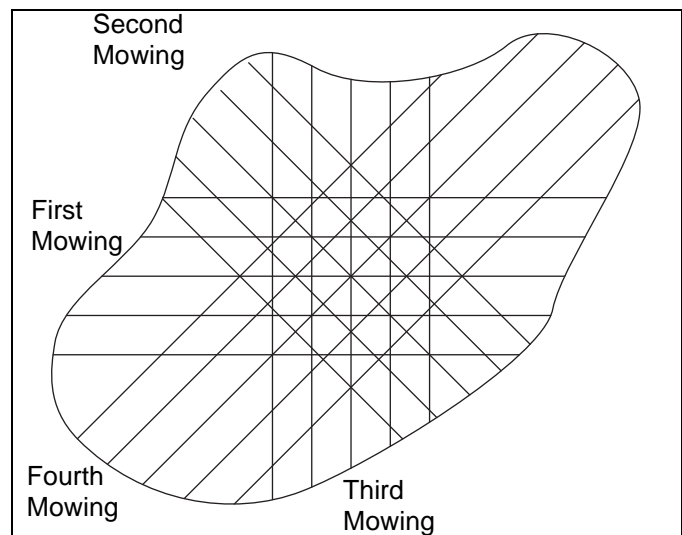

Figure 4D
5. For a more even playing surface and neater appearance, alter the mowing pattern each time a green is mowed. The patterns shown in **Figure 4D** are suggestions only, the operator or course superintendant can arrange patterns to suit each green.